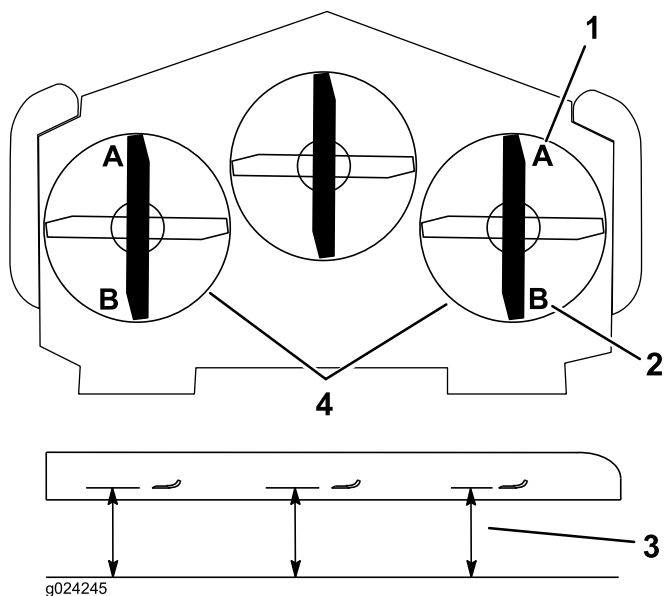

Figure 83
8. On both sides of the deck, measure from the level surface to the front tip of the blade (Position A) (Figure 83).
Note: The measurement should read 7.6 mm (3 inches); refer to Figure 83.
14. On both sides of the deck, measure from the level surface to the back tip of the blade (Position B). Ensure the measurement is 8.3 cm (3-1/4 inches) (Figure 83).